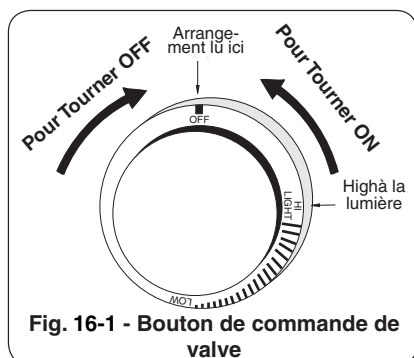

Fig. 16-1 - Bouton de commande de valve
3. Use the Allen wrench to loosen and remove the lid motor assembly locking bolt and washer (Fig. 16-1).